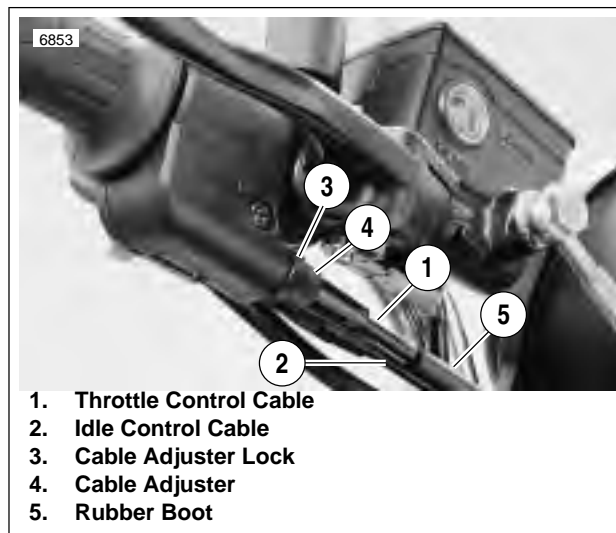
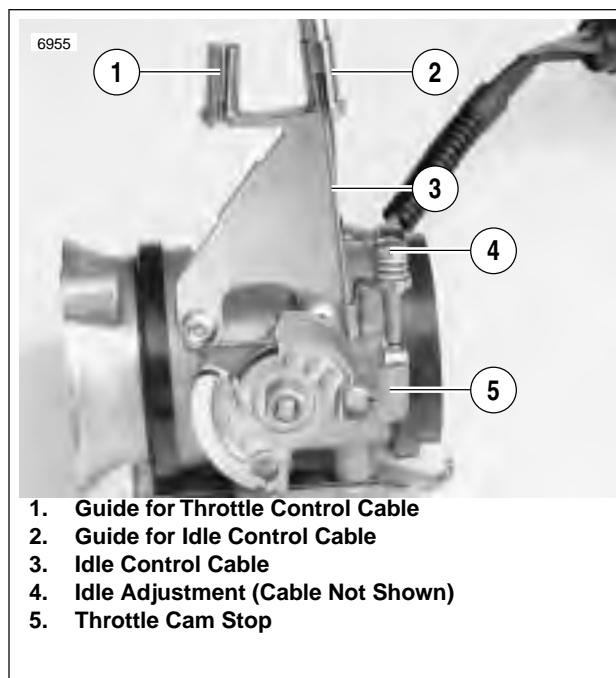

Figure 1-44. Throttle Cables
Figure 1-45. Throttle Body (Typical)
2. See Figure 1-44. Slide rubber boot (5) off each cable adjuster (4).
3. Loosen cable adjuster lock (3) on each cable (1, 2).
6. See Figure 1-45. Turn adjuster on throttle control cable until throttle cam stop (5) touches stop plate. Tighten jam nut on throttle control cable adjuster; release throttle control grip.
7. Turn handlebars fully to right. Turn adjuster on idle control cable (3) until end of cable housing just touches the cable guide (2).
8. See Figure 1-44. Twist and release throttle control grip a few times. Throttle plate must return to idle position each time throttle grip is released. If this is not the case, turn adjuster (4) on idle control cable (2) (shortening cable housing) until throttle control functions properly.
9. Tighten cable adjuster lock (3) on idle control cable (2). Recheck operation of throttle control.
10. Slide rubber boot (5) over each cable adjuster (4). Recheck engine slow idle speed; adjust if required.
Regular idle speed is 850-1050 RPM. Set idle speed using idle adjustment screw (4) shown in Figure 1-45.